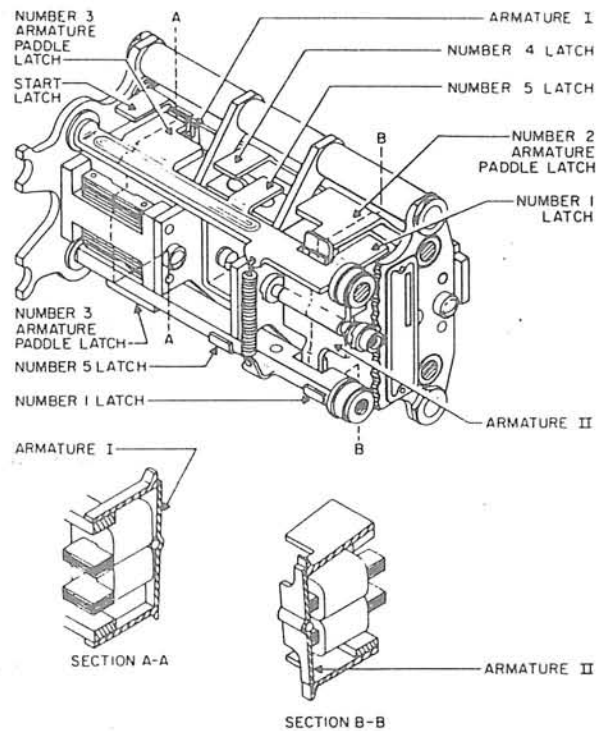

Figure 4-9. Magnetic Selector Mechanism
(2) MAGNETIC SELECTOR MECHANISM. (See Figure 4-9) - The magnetic selector mechanism, mounted at the back of the printer, receives pulse information from the dual range sensor. The magnetic selector consists of two armature and solenoid sets facing in opposite directions. Each armature set contains four solenoid coils connected so that like magnetic poles are diagonally opposite. The selector operates in polar fashion, using two sets of series coils for space and two sets for series coils for mark. In this manner, recovery time is reduced and the armature sets are mechanically divided so that the right armature set is controlled by stop-start, 2, and 4 pulses, and the left armature set is controlled by pulses 1, 3, and 5. Energizing either the space or mark coils positions the armature so that it blocks the inward motion of either the space or mark paddle.